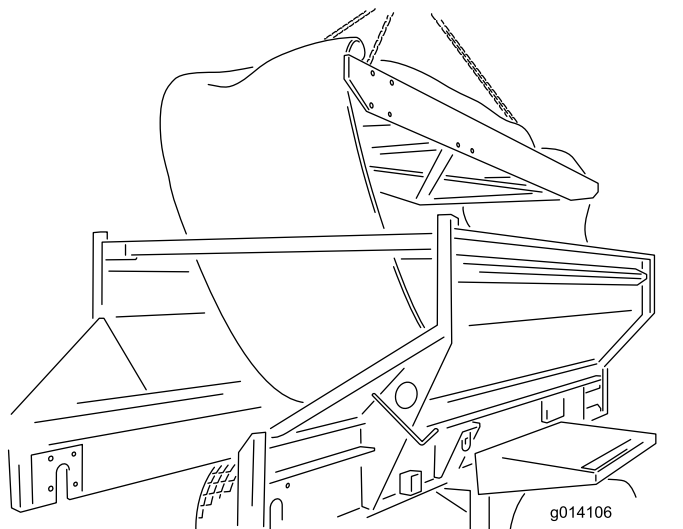

Figure 60
24. Remove the cartridge by lifting it out from the top of the machine. Place it on the ground (Figure 60).